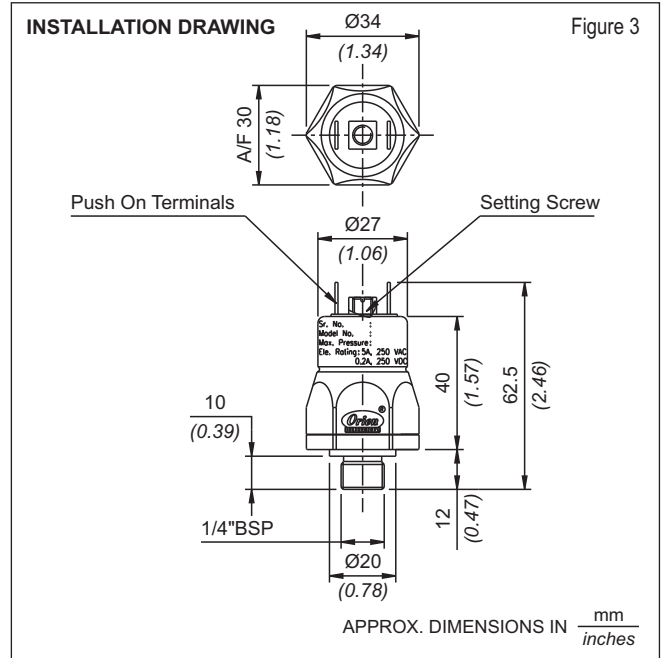

Figure 3
- 1) The switching point can be easily adjusted by turning the setting screw located in between the contacts. Figure. 3.